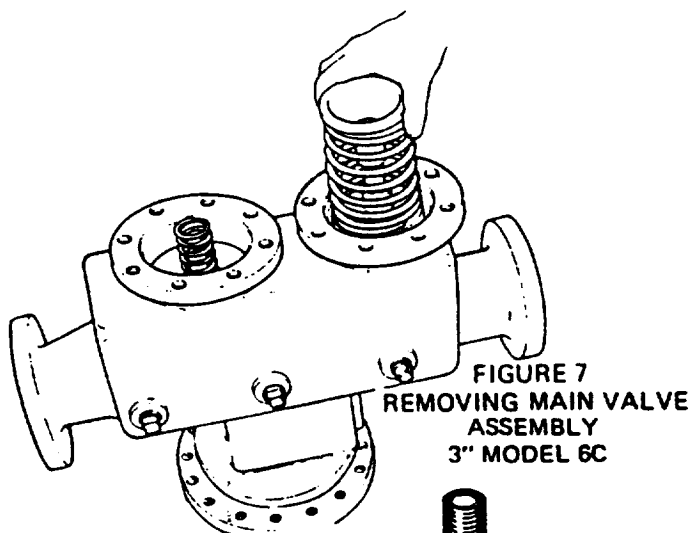
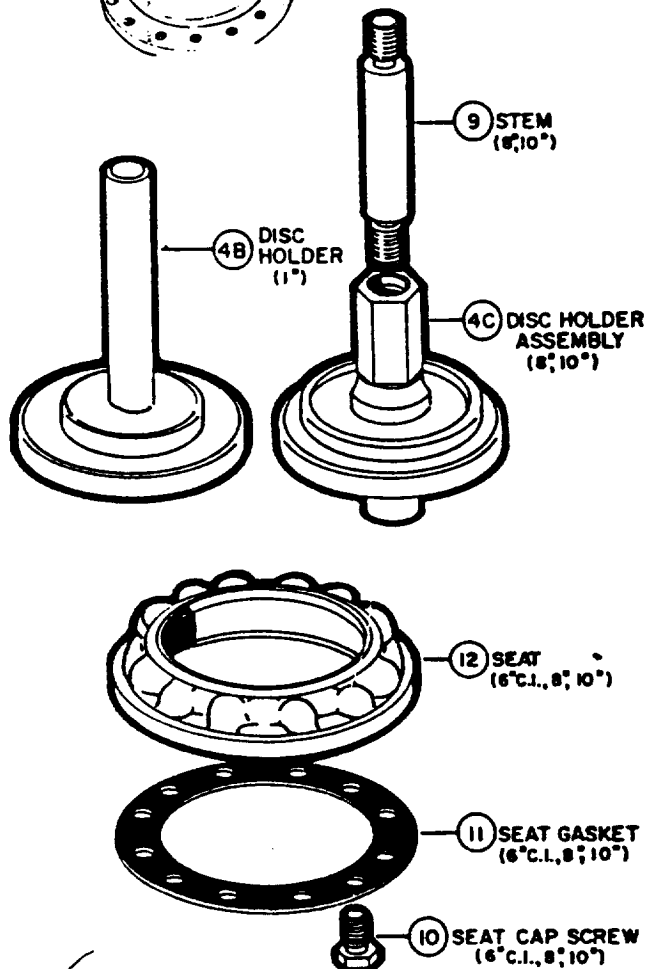

FIGURE 7
FIGURE 8
4. Remove main valve assembly (Fig. 7).
5. Remove disc cap screw (1" and 1-1/2" sizes) (7B) or stud nut (2" - 10" sizes) (8). This releases the guide (6A) and guide
washer (8" - 10" sizes) (6B) from disc holder (1" - 6") (4A, 4B), or from disc holder assembly (8", 10") (4C). Stem (8" and 10" sizes) (9) can also be replaced, if necessary (see Fig. 8).
6. Replace disc (5) and reassemble valve guide (6A) to disc holder (4A, 4B) or disc holder assembly (4C).
1. 1-1/2" – 3" (refer to Figs. 8 and 9).
- a. Loosen spring retainer nut (1).
- b. Compress spring retainer (2) by hand. Remove spring retainer nut (1).
- c. Release hand and remove retainer (2) and spring (3).